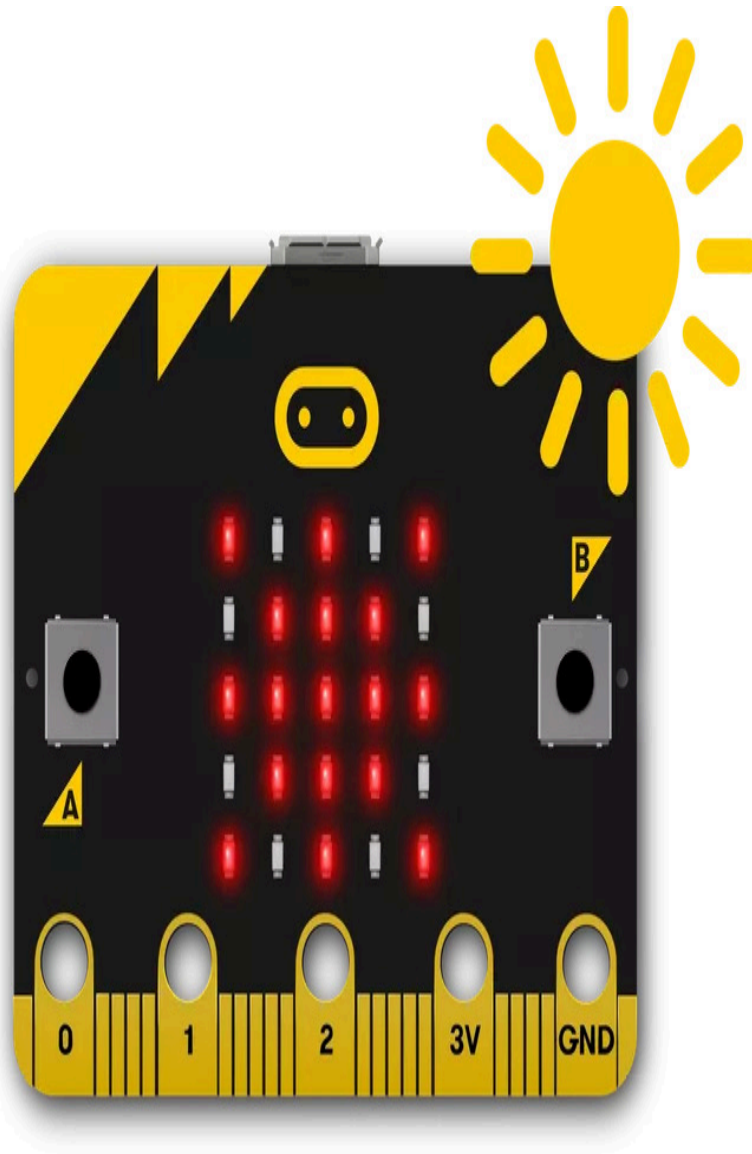

Figure 14.4 – Position of light sensors on a Micro:bit (courtesy: <https://microbit.org/projects/make-it-code-it/sunlight-sensor/>)
*Figure 14.4* shows the location of the light sensors on a Micro:bit: